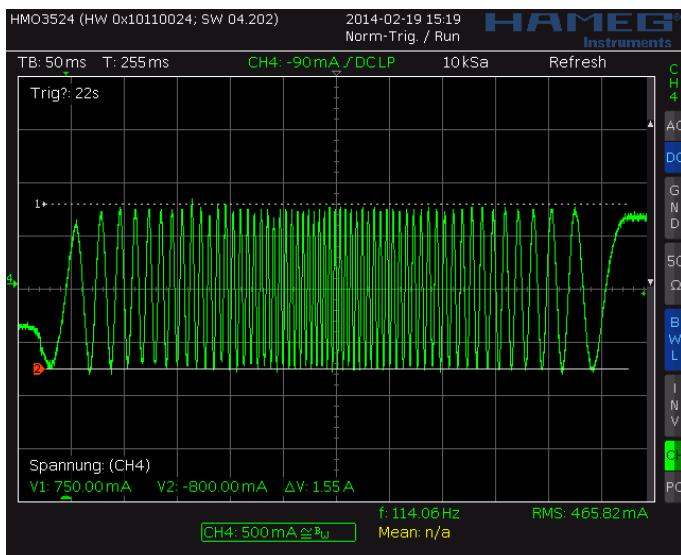
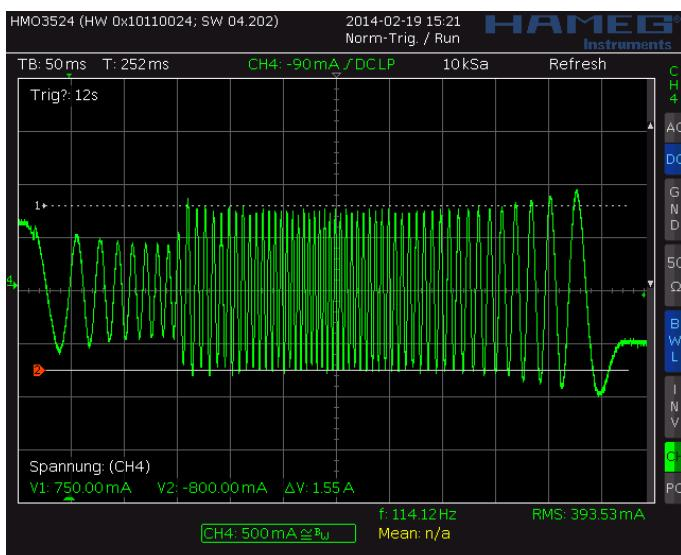
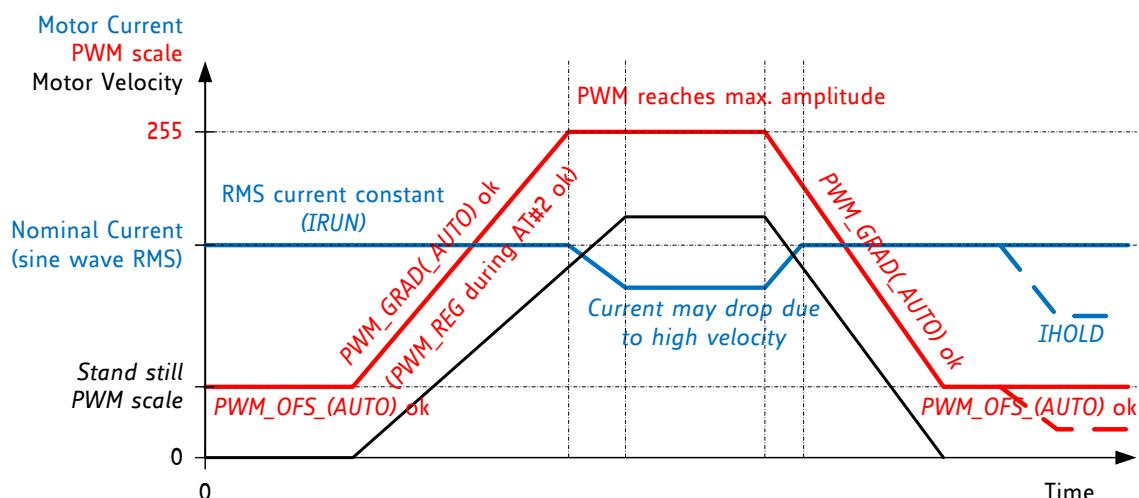

Figure 6.3 Scope shot: good setting for PWM\_REG
Figure 6.4 Scope shot: too small setting for PWM\_REG during AT#2
Figure 6.5 Successfully determined PWM\_GRAD(\_AUTO) and PWM\_OFS(\_AUTO)
In StealthChop voltage PWM mode, the autoscaling function (`pwm_yscale = 1, pwm_ygrad = 1`) regulates the motor current to the desired current setting. Automatic scaling is used as part of the automatic tuning process (AT), and for subsequent tracking of changes within the motor parameters. The driver measures the motor current during the chopper on time and uses a proportional regulator to regulate `PWM_SCALE_AUTO` in order match the motor current to the target current. `PWM_REG` is the proportionality coefficient for this regulator. Basically, the proportionality coefficient should be as small as possible to get a stable and soft regulation behavior, but it must be large enough to allow the driver to quickly react to changes caused by variation of the motor target current (e.g., change of VREF). During initial tuning step AT#2, `PWM_REG` also compensates for the change of motor velocity. Therefore, a high acceleration during AT#2 will require a higher setting of `PWM_REG`. With careful selection of homing velocity and acceleration, a minimum setting of the regulation gradient often is sufficient (`PWM_REG=1`). `PWM_REG` setting should be optimized for the fastest required acceleration and deceleration ramp (compare Figure 6.3 and Figure 6.4). The quality of the setting `PWM_REG` in phase AT#2 and the finished automatic tuning procedure (or non-automatic settings for `PWM_OFS` and `PWM_GRAD`) can be examined when monitoring motor current during an acceleration phase Figure 6.5.